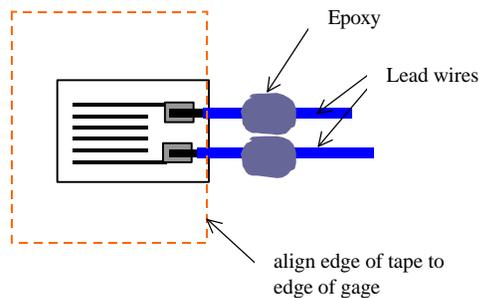

Figure 5
10. Strip 2 mm of insulation from the lead wires. Place stripped ends of lead wires onto the *solder pads*, then use a piece of cellophane tape to hold lead wires in place. Place the tape strip as shown in Figure 5.
11. Apply a small amount of epoxy to bond the lead wires to the body of the load cell, as shown in Figure 5. This serves to provide **strain relief** such that movement of the wires will not induce strain (stress) to the strain gage solder pads (after the wires are soldered to the pads).